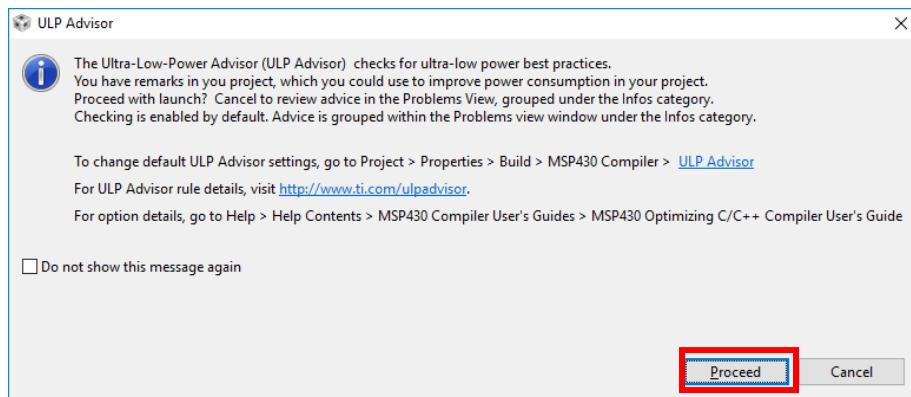

Figure 15. ULP Advisor
Step 2. In the UPL Adviser Dialog (Figure 15) click the <Proceed> button.